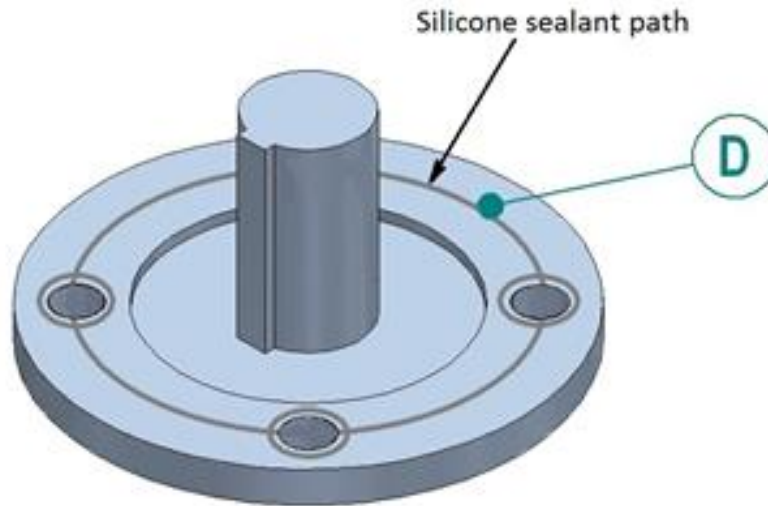

Figure 5 - Sealing of Valve Mounting Flange
- It is recommended that a silicon sealant is used between the gearbox baseplate and the valve flange. 'D' in Figure 5 highlights where this sealant should be applied.